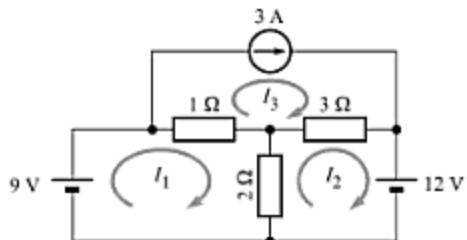

Fig. 3.71
12. Find the loop currents in the network shown in Fig. 3.71, by using the loop-current method. [Ans. $I_1 = 4.9 \text{ A}$, $I_2 = 1.36 \text{ A}$, $I_3 = 3 \text{ A}$]